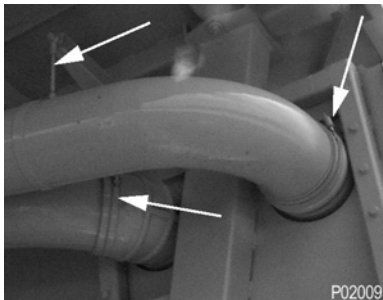

FIGURE 40-2.
9. AIR INTAKE PIPING - Check all mounting hardware, joints, and connections. Ensure no air leaks exist and all hardware is properly tightened. Figure 40-2.